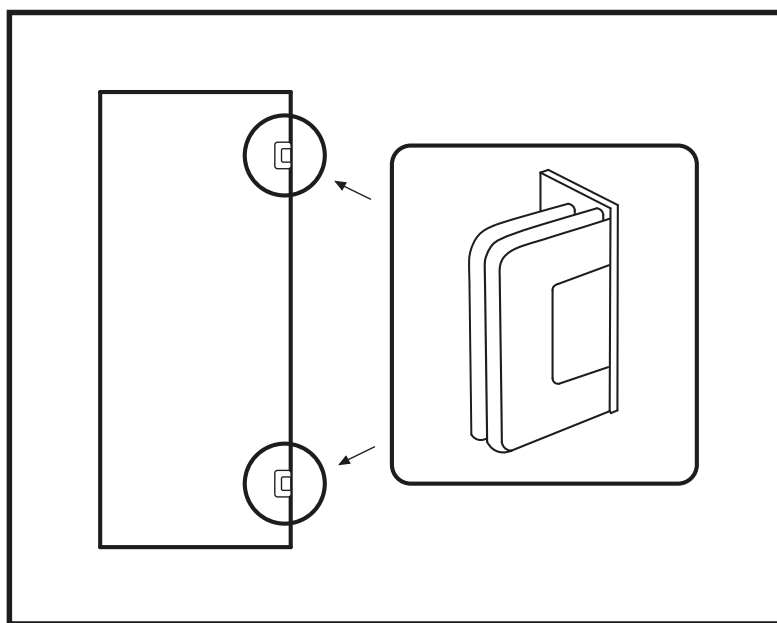

Figure 2
2. Take the hinges included in the kit and attach them to the glass using the screws provided in the kit. (Fig 2)